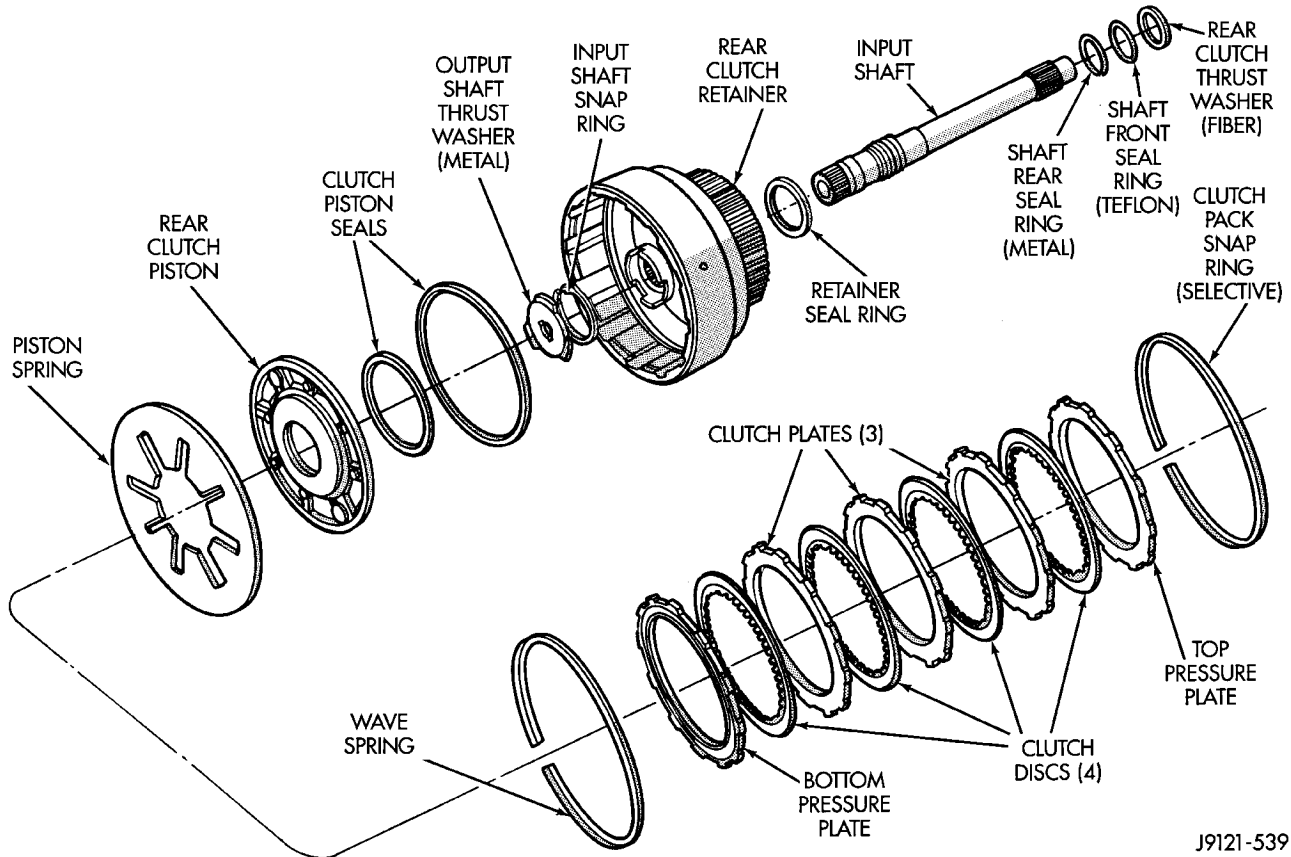
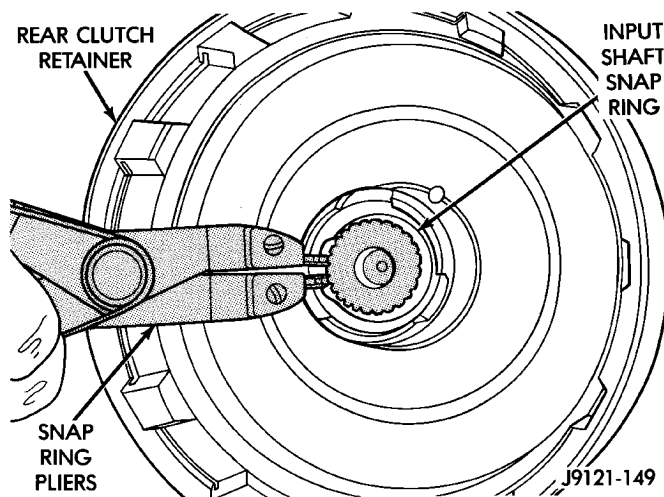

Fig. 157 Rear Clutch Components
Fig. 158 Removing/Installing Input Shaft Snap-Ring
- (1) Remove fiber thrust washer from forward side of clutch retainer.
- (2) Remove input shaft front/rear seal rings.
- (3) Remove selective clutch pack snap ring (Fig. 157).
- (4) Remove top pressure plate, clutch discs, steel plates, bottom pressure plate and wave snap ring and wave spring (Fig. 157).
- (5) Remove clutch piston with rotating motion.
- (6) Remove and discard piston seals.
- (7) Remove input shaft snap-ring (Fig. 158). It may be necessary to press the input shaft in slightly to relieve tension on the snap-ring.
- (8) Press input shaft out of retainer with shop press and suitable size press tool. Use a suitably sized press tool to support the retainer as close to the input shaft as possible.
- (4) Install input shaft snap-ring (Fig. 158).
- (5) Invert retainer and press input shaft in opposite direction until snap-ring is seated.
- (6) Install new seals on clutch piston. Be sure lip of each seal faces interior of clutch retainer.
- (7) Lubricate lip of piston seals with generous quantity of Mopar® Door Ease. Then lubricate retainer hub and bore with light coat of transmission fluid.
- (8) Install clutch piston in retainer. Use twisting motion to seat piston in bottom of retainer. A thin strip of plastic (about 0.020" thick), can be used to guide seals into place if necessary.
- (11) Install bottom pressure plate (Fig. 157). Ridged side of plate faces downward (toward piston) and flat side toward clutch pack.
- (12) Install first clutch disc in retainer on top of bottom pressure plate. Then install a clutch plate followed by a clutch disc until entire clutch pack is installed (4 discs and 3 plates are required) (Fig. 157).
- (13) Install top pressure plate.
- (14) Install selective snap ring. Be sure snap ring is fully seated in retainer groove.